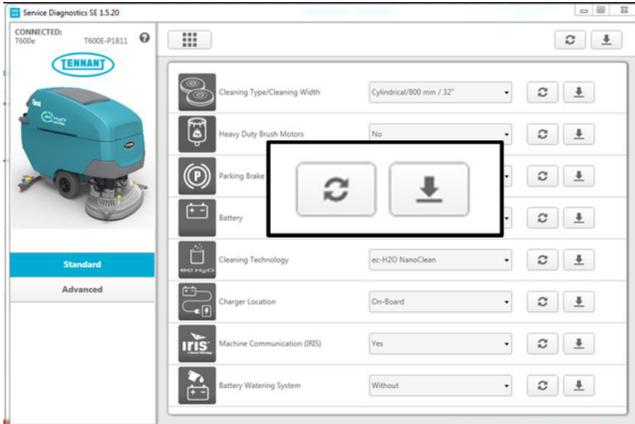

Fig. 12
- 7. Carefully select the configurable options that apply from the drop down menus, then click the arrow button to begin programming the machine (Figure 12).